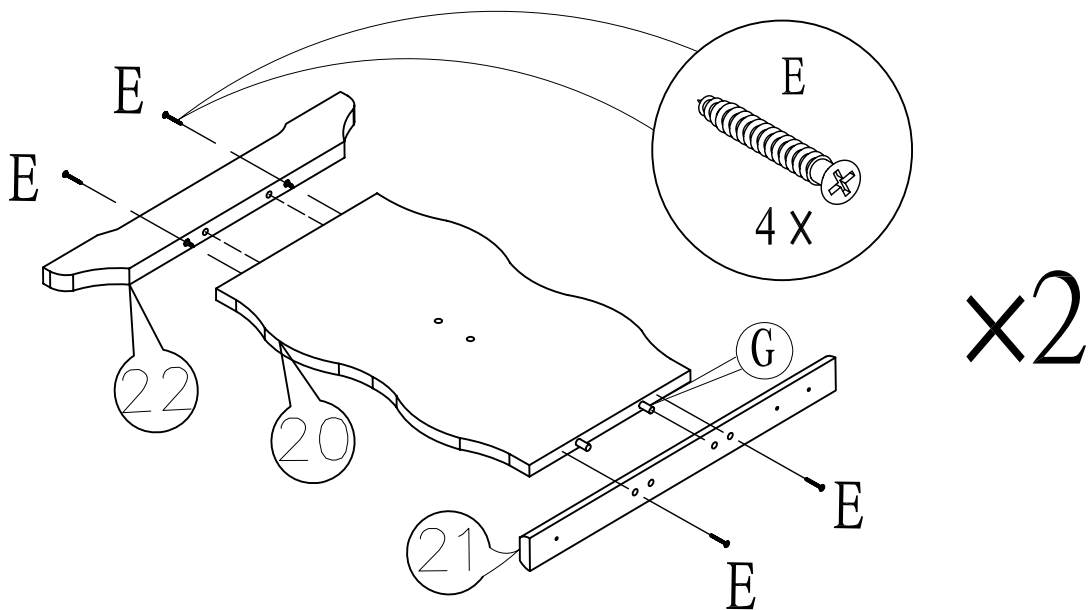

FIGURE 2
- 1) ATTACH LEG BASE #22 TO LEG #20 THROUGH FITTING DOWELS LOCATED ON LOWER END OF LEG #20 INTO HOLES LOCATED ON UPPER EDGE OF BASE #22 AS GUIDE, SECURE CONNECTION WITH (02) SCREWS (E) DRIVEN WITH ALLEN WRENCH (J). AS SHOWN IN FIGURE 2. REPEAT PROCEDURE FOR SECOND LEG #20.
- 2) ATTACH TABLE TOP SUPPORT #21 TO LEG #20 FITTING THE DOWELS LOCATED ON UPPER END OF LEG #20 INTO HOLES LOCATED ON SUPPORT #21. USING PRE-DRILLED HOLES AS GUIDE, SECURE CONNECTION WITH (02) SCREWS (E) DRIVEN WITH ALLEN WRENCH (J). AS SHOWN IN FIGURE 2. REPEAT PROCEDURE FOR SECOND TOP SUPPORT #21.